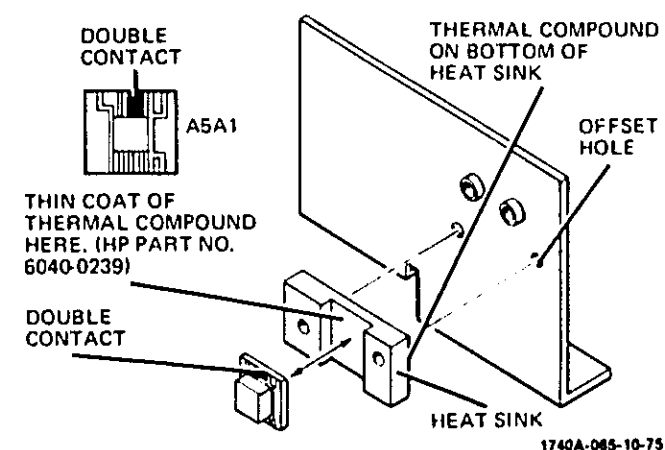

Figure 8-18. A5A1 Removal
IC A5A1 Removal (see figure 8-18):
- c. To reinstall A5A1, reverse removal procedure, being certain to note orientation of parts as shown in figure 8-18.
Apply a thin coat of silicone grease (HP P/N 6040-0239) to points indicated in figure 8-18.